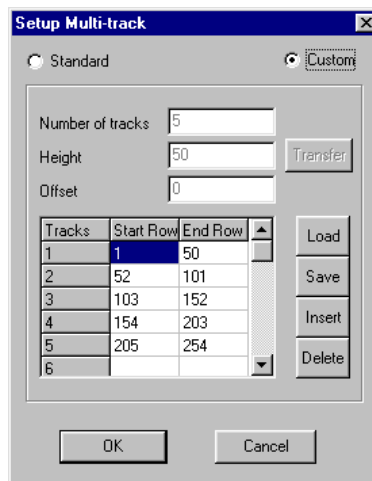

Figure 9: Setup Multi-track dialog box (Custom setting)
- When the Multi-Track parameters have been entered, they can be transferred into the Custom table by selecting the Transfer button. The Custom radio button will be automatically selected and individual track information will appear in the table as is shown in the example (**figure 9** below). The start and end row of each specified track is listed.